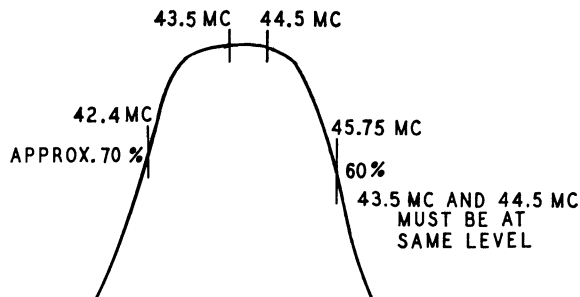

Fig. 5—Pix I-F Response From 1st Pix I-F Grid
2. With approximately —5.5V bias on AGC line junction of R-208 and C-211 (Test Point "C") connect sweeper to 1st I-F grid (Pin #1-V3). Reduce sweeper output to compensate for additional gain of 1st stage (4.0V. P-P on oscilloscope). Adjust 1st I-F transformer primary (top) and secondary (bottom) for maximum gain and symmetry with 45.75 mc marker. (See Figure 5.)